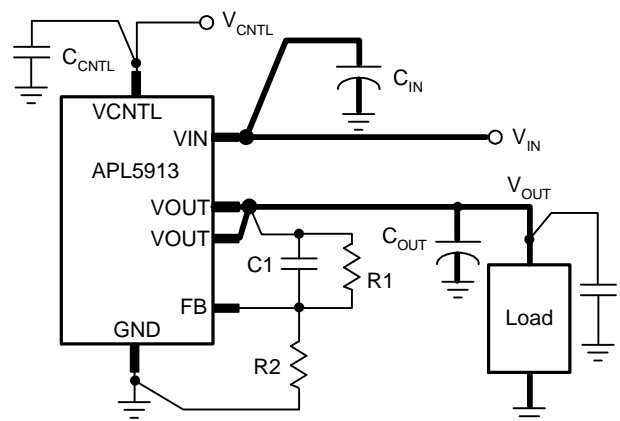

Figure 2
### PCB Layout Consideration (See Figure 2)
8. See the Typical Application (See Figure 2)